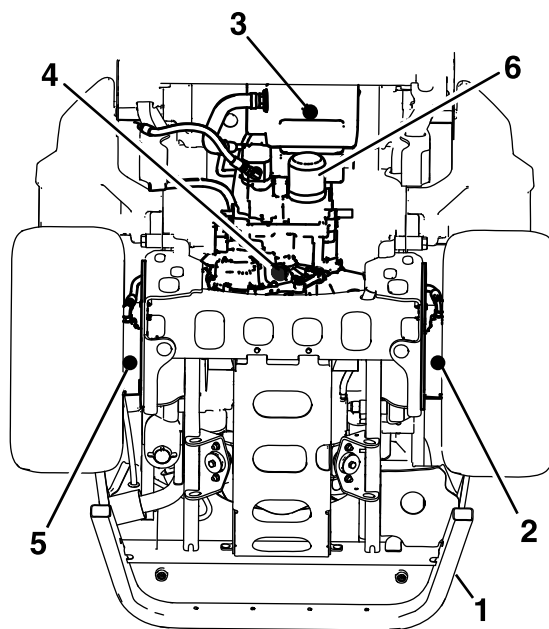

Figure 71
4. Place a large drain pan under the hydraulic reservoir, transmission case, and the left and right wheel motors (Figure 71).
5. Remove the drain plugs from each area and allow the hydraulic fluid to drain (Figure 71).
6. Clean the area around the hydraulic-fluid filter and remove the filter (Figure 71).